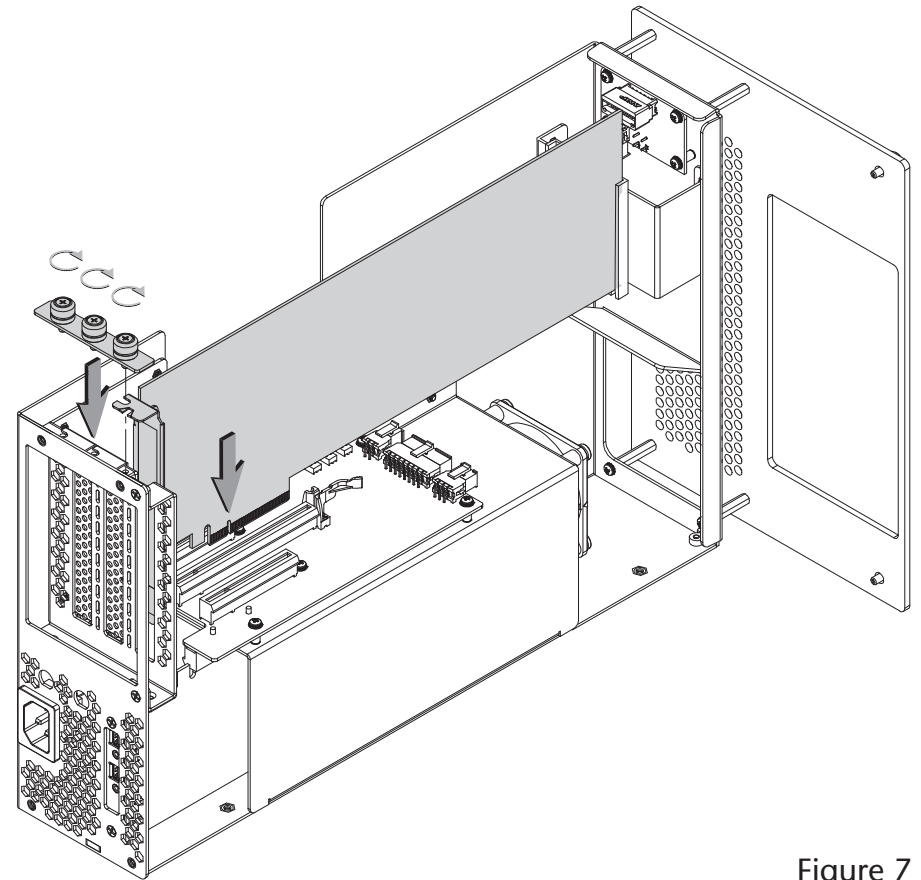

Figure 7
7. Line up the card's connector with the slot, and then gently but firmly press the card straight into the slot; **do not rock the card or force the card into the slot**. If you encounter excessive resistance, check the card's connector and the slot for damage, and then try inserting the card again (**Figure 7**).
10. If there are any unoccupied slots, install the port access covers you removed previously to cover any openings (**Figure 7**).
11. Secure the cards and port access covers using the previously removed PCIe card bracket locking plate (**Figure 7**).